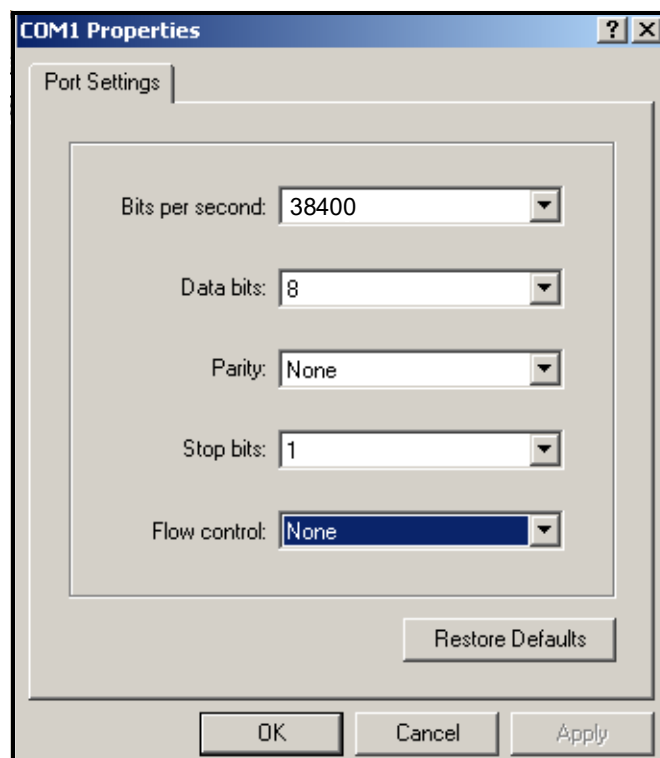

Figure 15: Communication Port Properties Window
4. The *Communication Port Properties* window appears. Enter the settings shown in Figure 15 below. Click OK.